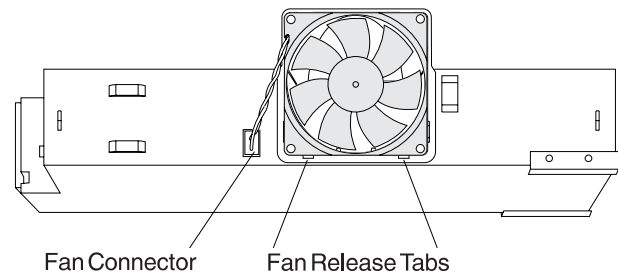

Figure 1-9. Fan Remove and Replace
- 2 Disconnect the fan connector from the power supply by depressing the latch located on top of the connector. See Figure 1-9.